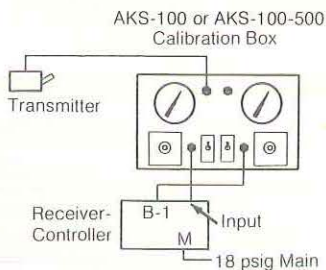

Figure 6.
1. Connect in the AKS-100 calibration box as shown in Figure 6.
Connect the AKS-100 calibration box as shown in Figure 6 or 7. Position toggle switch to down (calibration) position. Rotate manual adjuster and observe output of unit. If the performance is not as desired, refer to calibration instructions and recalibrate unit. If unit still does not operate properly, refer to **REPAIR**.